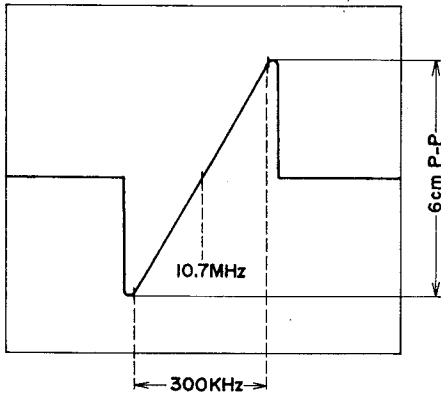

Fig. 6 S CURVE CHARACTERISTIC
- 6) In making this adjustment, the marker on the Screen will vary slightly depending upon the rank of the ceramic filter, but it is satisfactory if S curve characteristics as shown in Fig. 6 can be obtained.